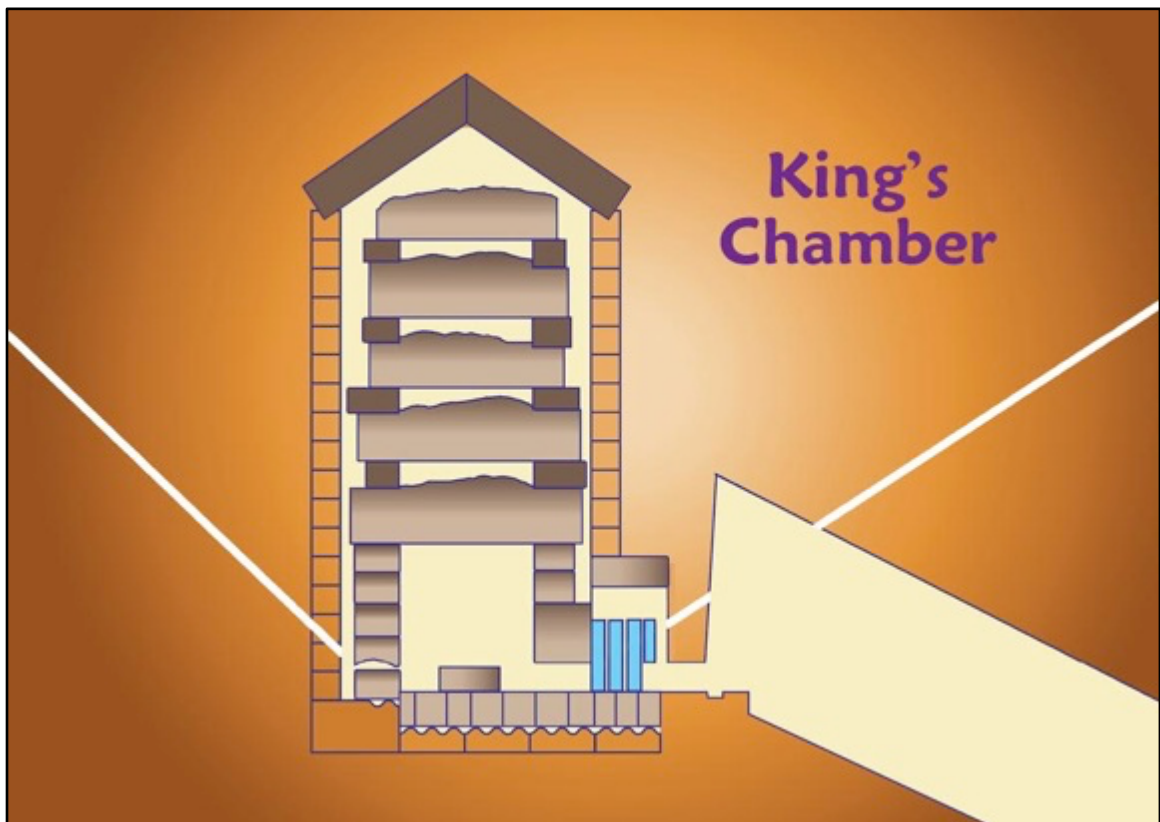

Figure 9. Kings Chamber
The Kings Chamber is a primary focal point of the interior of the pyramid and is located about 175-feet above grade level. As there are multiple interconnected workings of the Kings Chamber, refer to Figure 9 as we summarize the noteworthy construction and notable components:
components are purposely freestanding from the surrounding limestone masonry in the pyramid (see Figure 9)
- The key to utilizing the resident hydrogen gas (with the configuration of this system) to produce a usable power was the specific introduction of electromagnetic energy of the correct amount (amplitude) and frequency. This was achieved by introducing exterior electromagnetic energy (that is constantly bombarding the Earth) into the Kings Chamber from outside the pyramid via the Kings Chamber Northern Shaft (see Figure 9) where it is guided directly towards the Sarcophagus in the Kings Chamber²¹